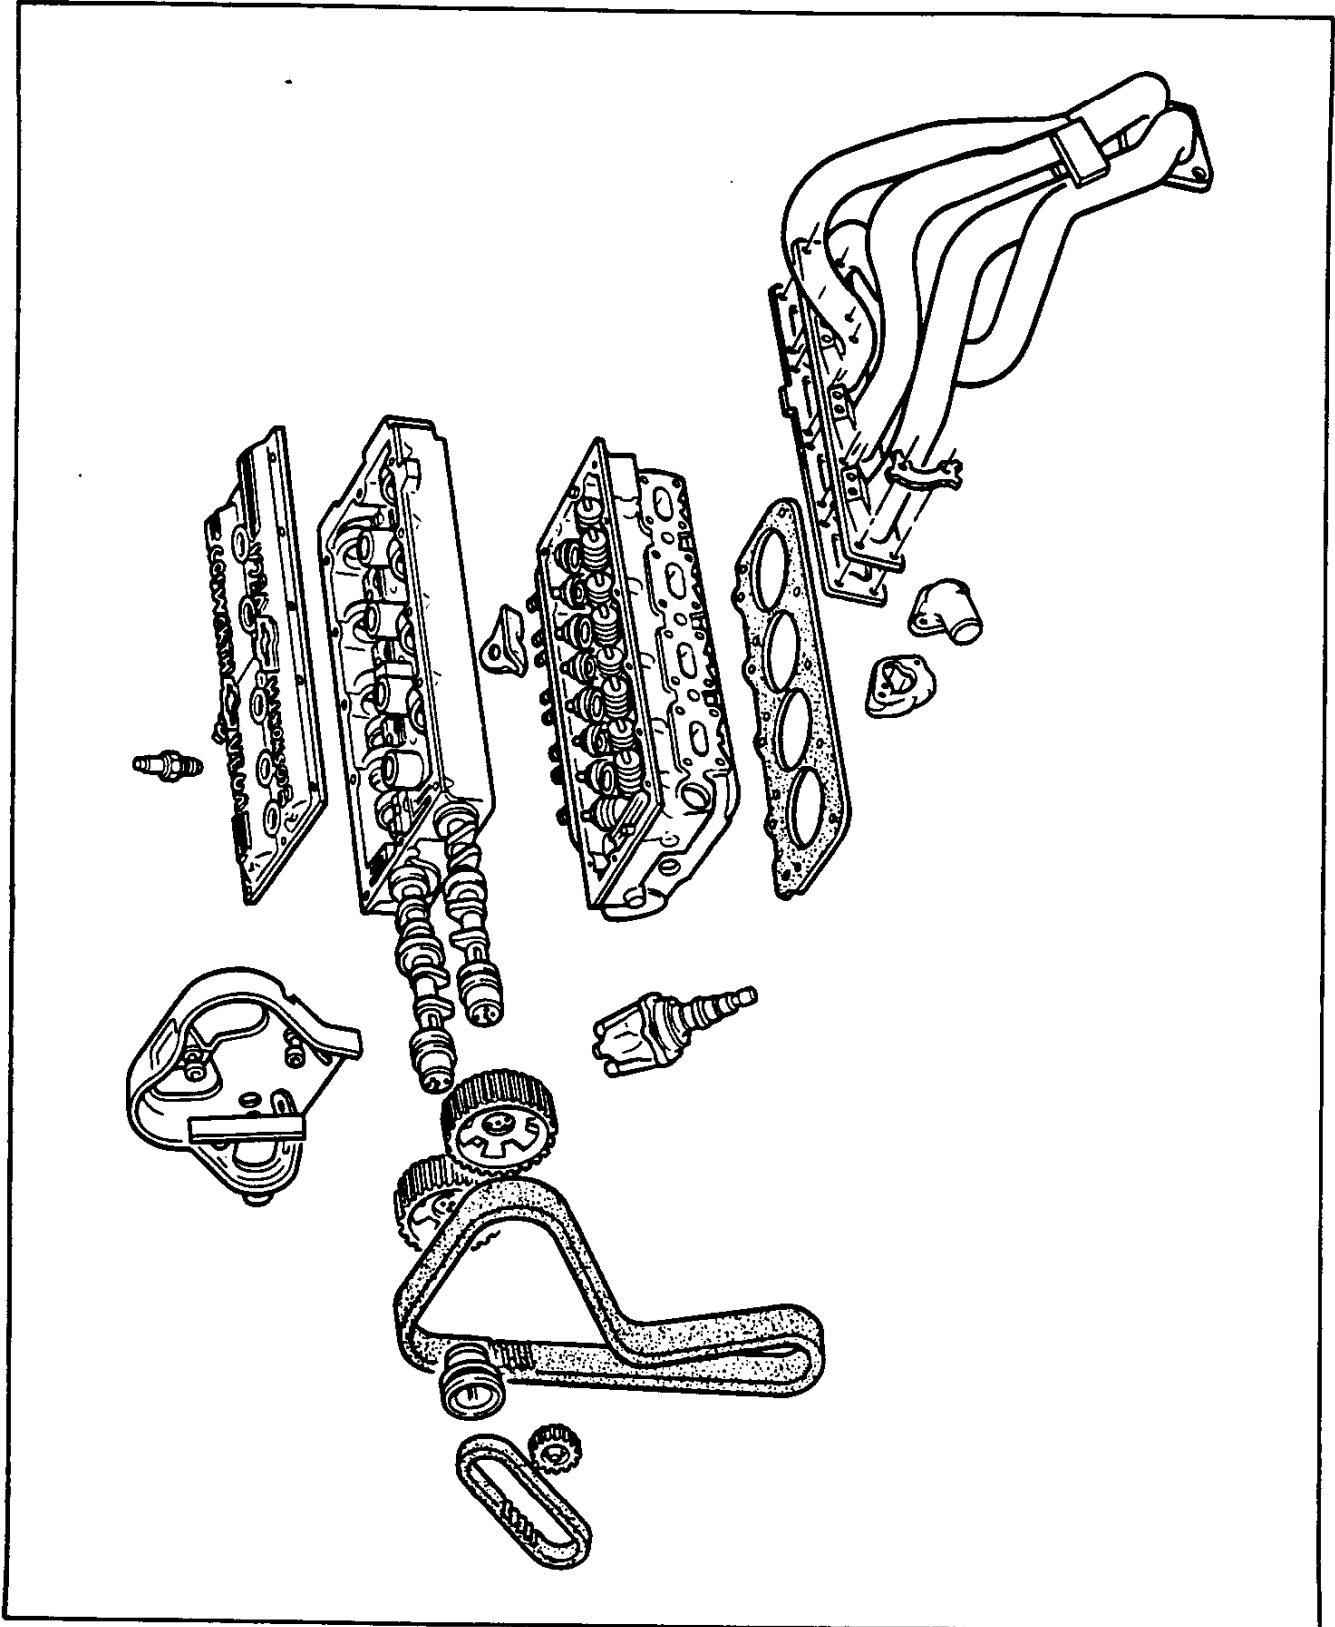

Fig. 22—Engine Components
1. Remove engine front cover and camshaft carrier cover as previously outlined (fig. 22).